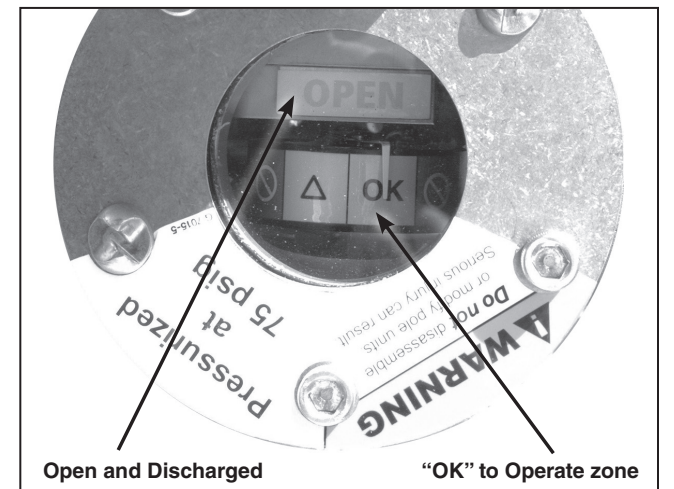

Figure 12. Make sure the pole-unit is open and discharged. Also make sure the gas-pressure indicator is in the "OK" to Operate zone.
- STEP 5.** Check the indicator at the base of each pole-unit to make sure the pole-unit is open and discharged. Also check that the gas-pressure indicator is in the "OK" to Operate zone. See Figure 12.